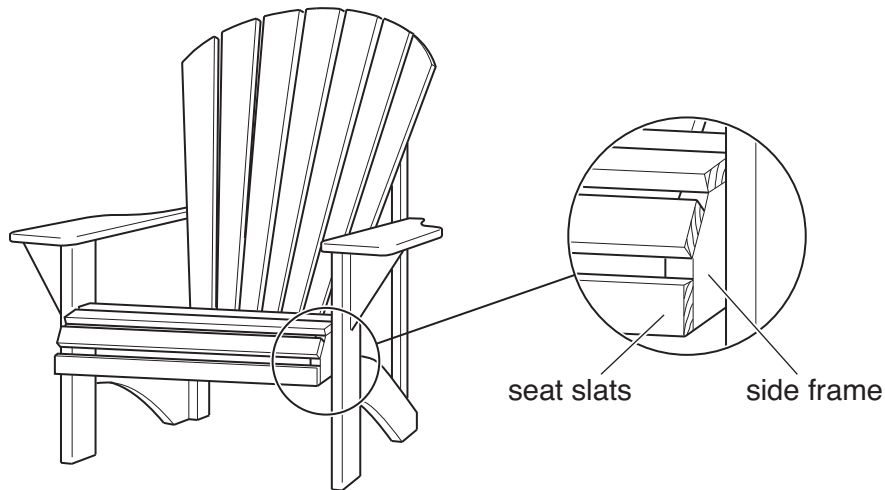

Fig. 1
- 1 Fig. 1 shows a chair made from softwood.